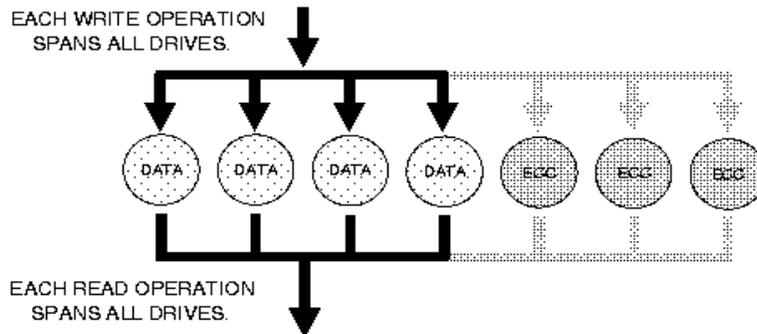

Figure 44. Parallel Array with ECC
**RAID-2** arrays sector-stripe data across groups of drives, with some drives relegated to storing ECC information. Since all disk drives today embed ECC information within each sector, RAID-2 offers no significant advantages over RAID-3 architecture and is not supported by SCSI RAID adapter, Figure 44.